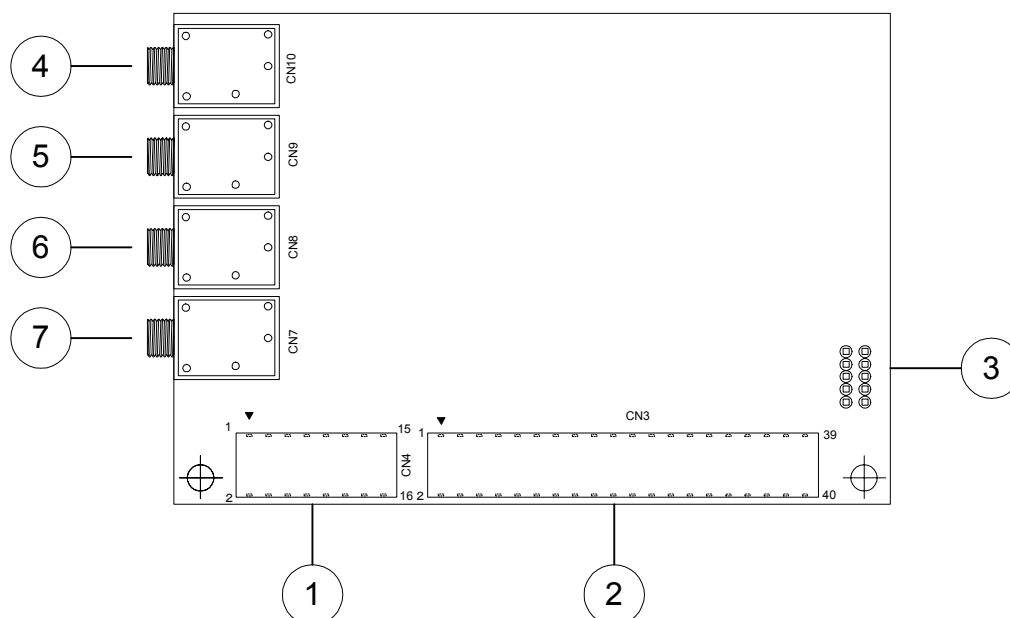

Fig.4.1 Camera Board Interface Connector Layout
① 5V, Reset (CN3 : HIF3H-16DB-2.54S)
① in Fig.4.1
② Camera interface and expansion connector (CN1: HIF3H-40DB-2.54DS)
② in Fig.4.1
②-1 S1S65010 Evaluation Board (S5U1S65K01H0x00) case of joint
③ in Fig.4.1
④ to ⑦ in Fig.4.1